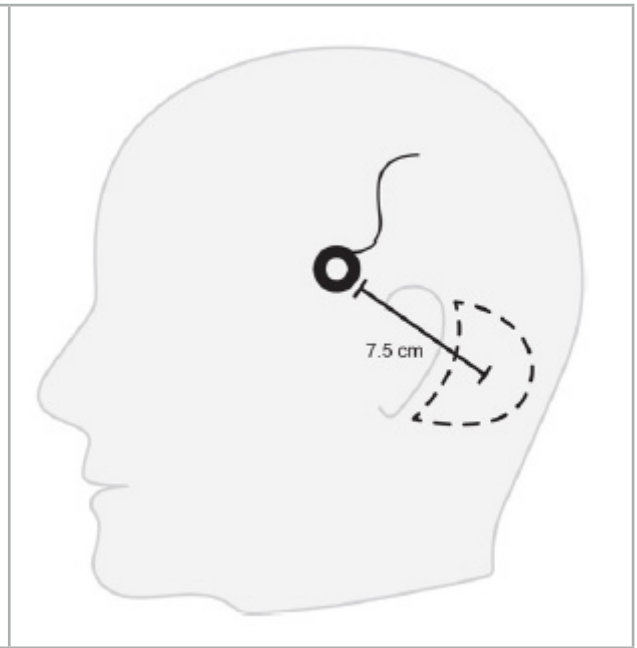

Figure 3 – Positioning of the Patient Tracker Electromagnetic for Lateral Skull Surgery
2. Use the Patient Tracker Electromagnetic and place it on the opposite side of the situs from yourself. If you are being assisted by a second surgeon, the Patient Tracker can be moved correspondingly to the right or to the left. A distance of 7.5 cm is found to be most effective (Figure 3).